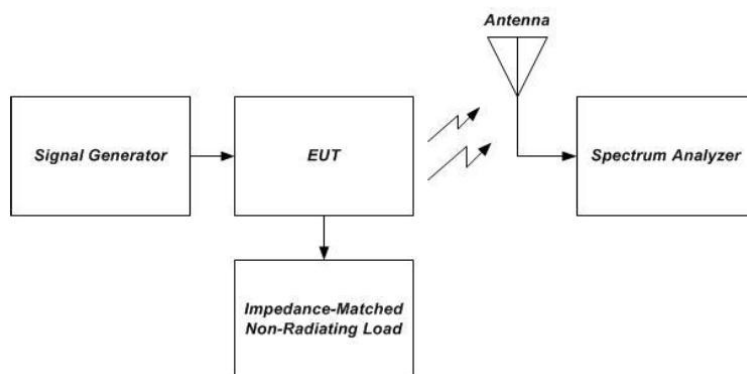

Figure 11 – Radiated spurious emissions test and instrumentation setup
- Connect the EUT to the test equipment as shown in Figure 11 beginning with the uplink output (donor) port.